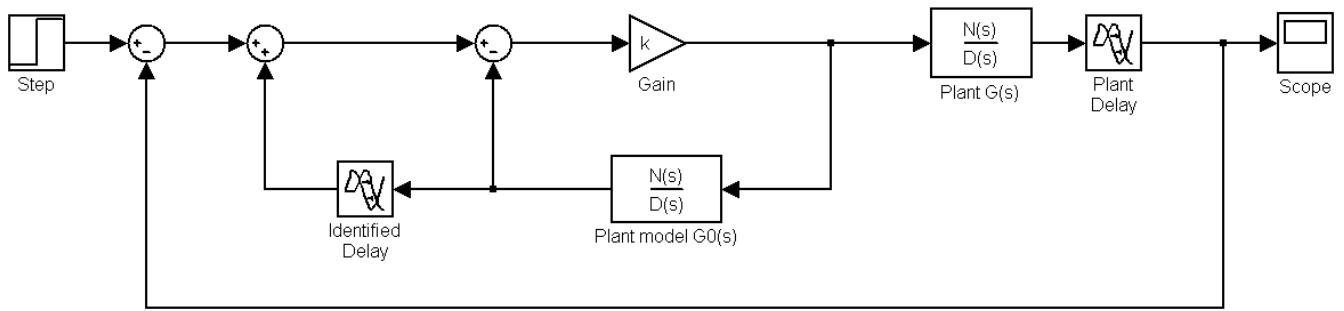

Figure 1: Simulink diagram for Problem 2.
- (b) Simulate the system in Simulink, plot the response, and show that it is the correct response. Use the **Transport delay** block to implement the  $e^{-sT}$  delays. Your diagram could be similar to the one of Figure 1.